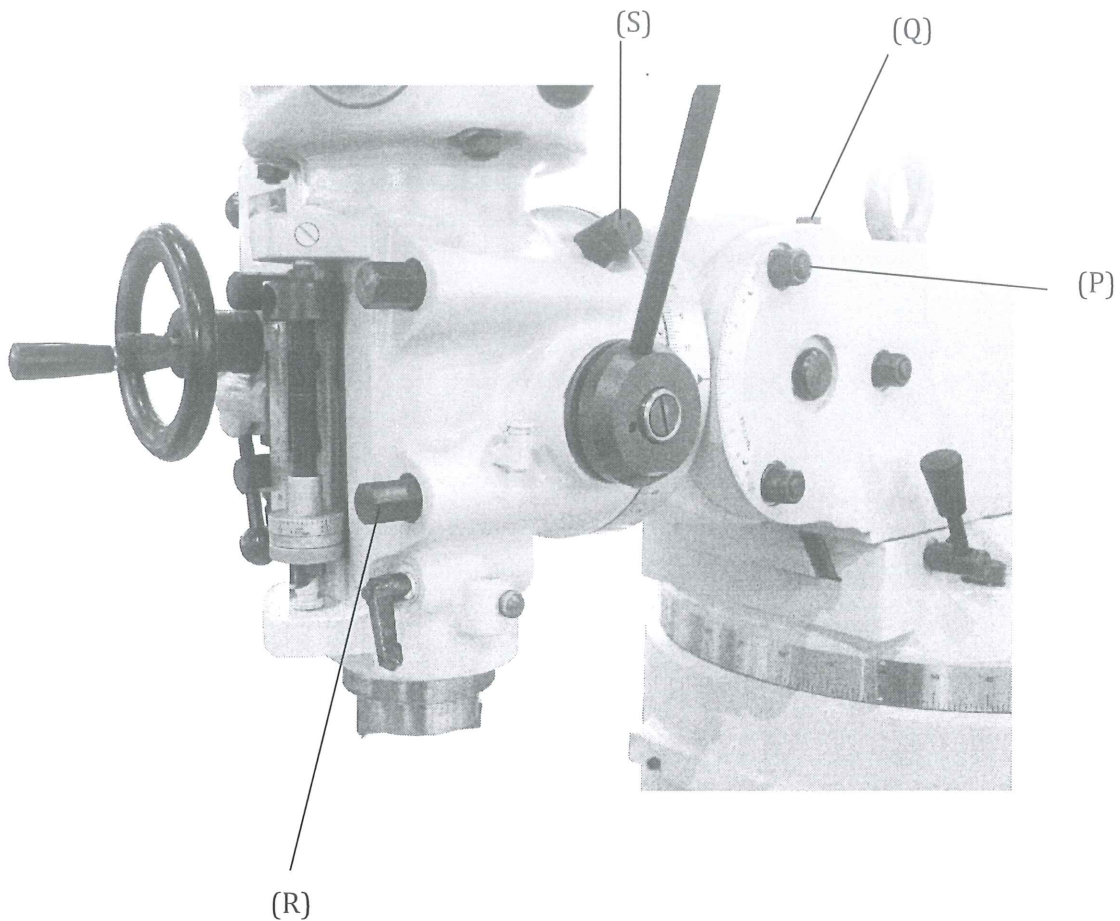

Figure 14 &15
i. Tilting the headstock (Fig. 14):